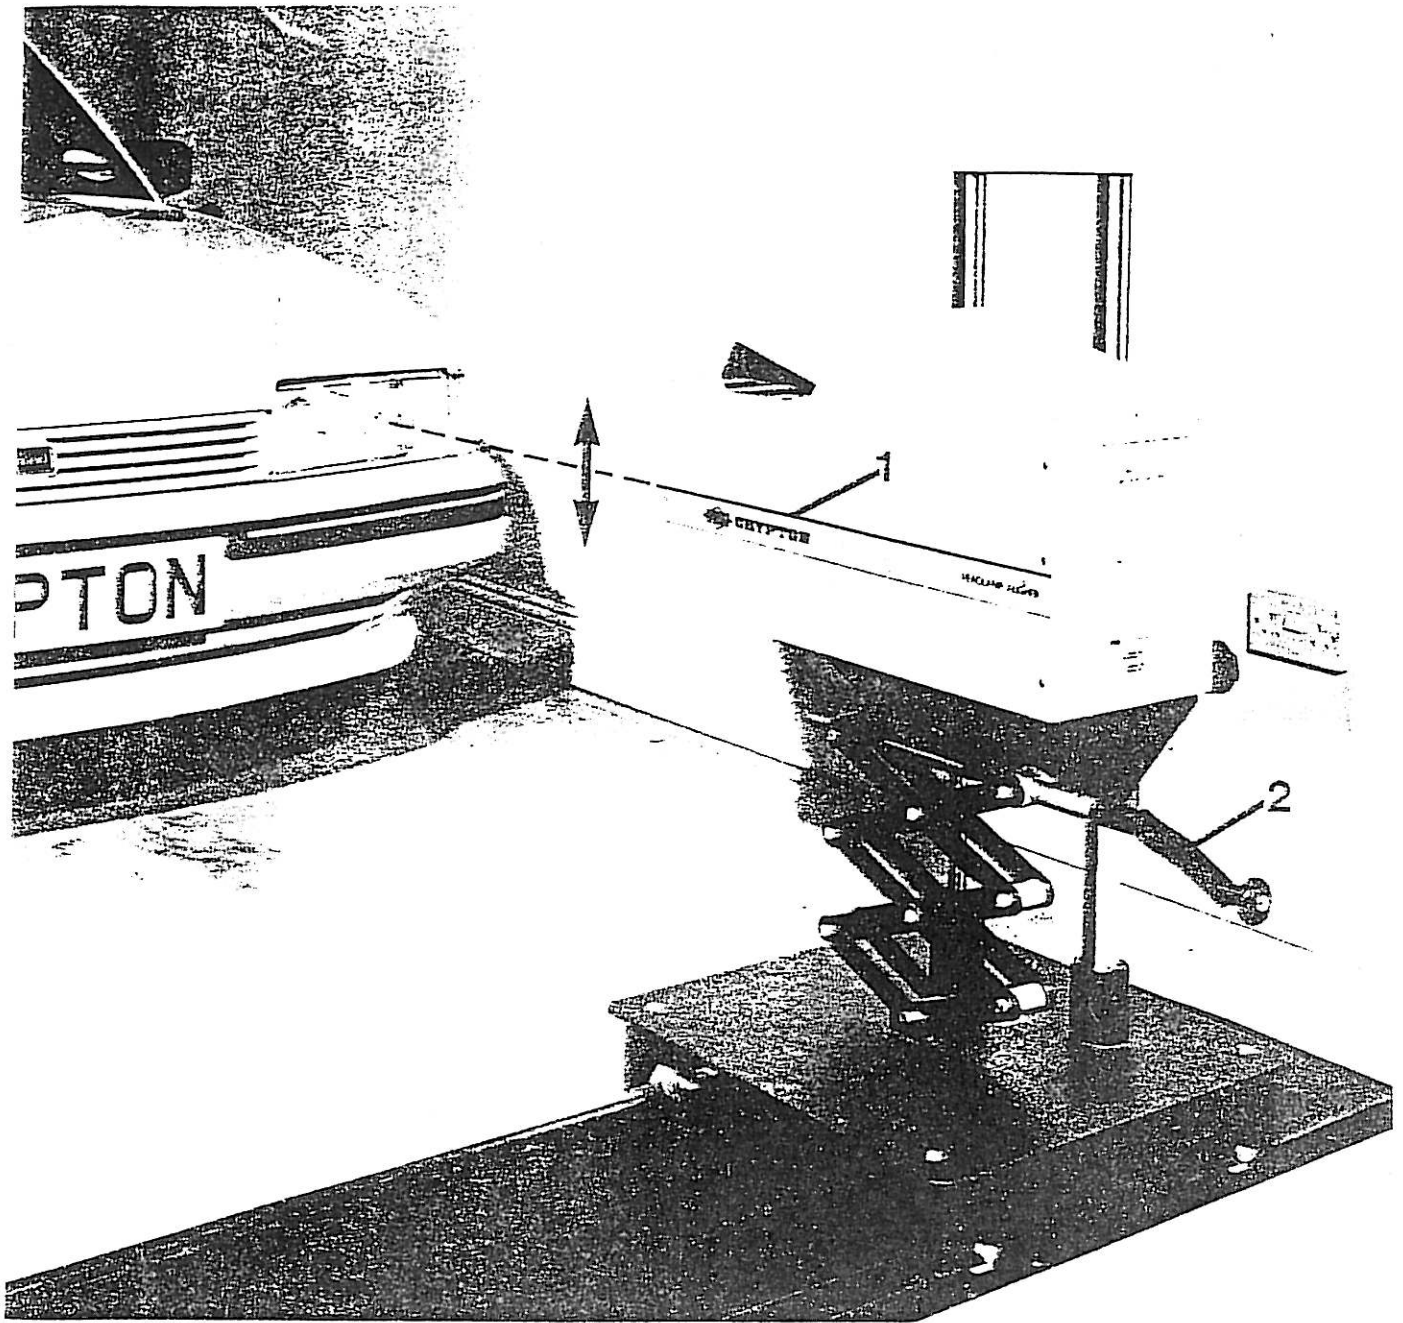

Fig. 3
4. Using the height adjustment rod, set the Headlamp Aligner to the correct height from the floor. The top edge of the mark on the rod is to be aligned with the top edge of the CRYPTON nameplate (see Fig. 3). The Headlamp Aligner is now correctly set up for height and must not be moved during the rest of the test.